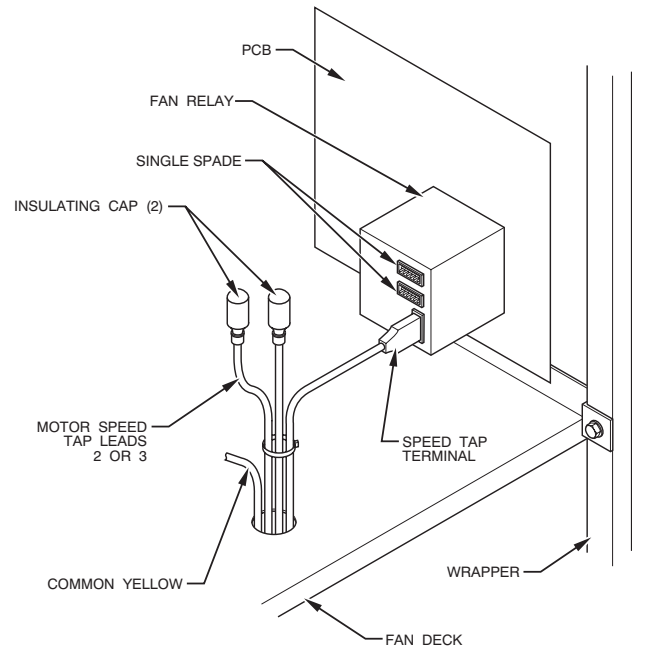

Fig. 15 - PSC Motor Speed Tap and Fan Relay
1. Speed tap selection is done at fan relay. To change motor speeds, disconnect fan lead on relay and replace with motor speed tap desired. Save insulating cap and place on motor lead that was removed from relay. (See Fig. 15.) Refer to Table 5 for further clarification of speed tap selections.